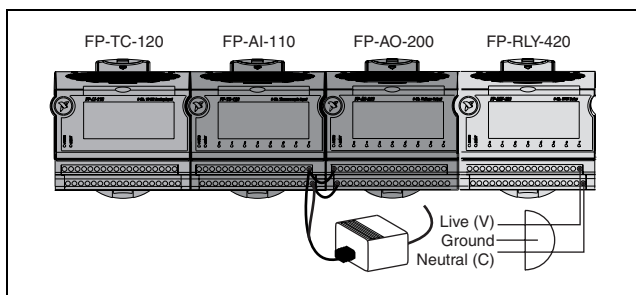

Figure 11. Different Voltage Potentials
- You need to wire power to the terminal bases only if you want to use the terminal bases to route power to field devices or if the I/O module requires it. FieldPoint I/O modules get their power from the network module through the backplane and, in most cases, require no external power for proper operation. Refer to your I/O module operating instructions for details. In Figure 11, shades of gray indicate differing voltage potentials.